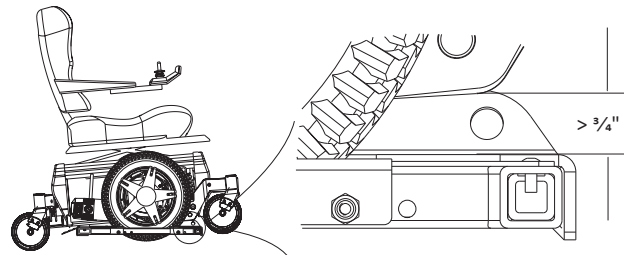

Figure 6-20
- If the power chair is leaning too far to the driver's side of the vehicle, move the passenger side wheel chock away to create a bigger opening. *See Figure 6-20.*